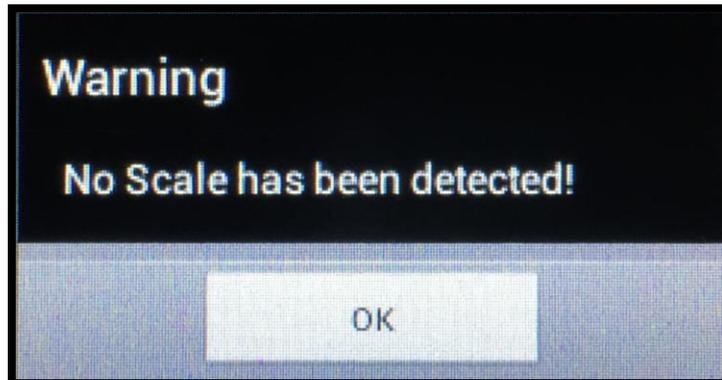

Figure 20
- g. If the MAJSx, while in the advance mode, does not detect a scale, the following “Warning” window will appear. (Figure 20)